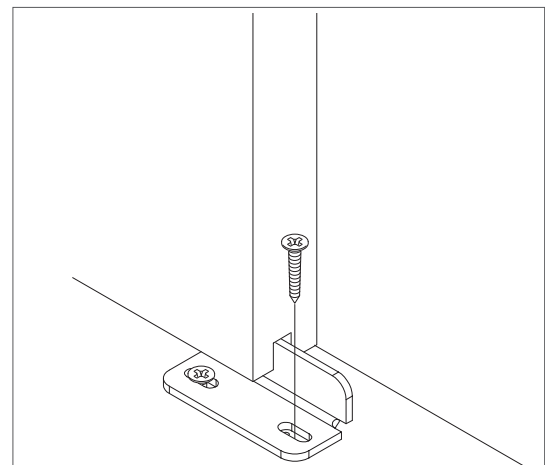

Figure 9
20. Install the second 1" phillips screw (provided) using a drill with a phillips bit (Figure 9).